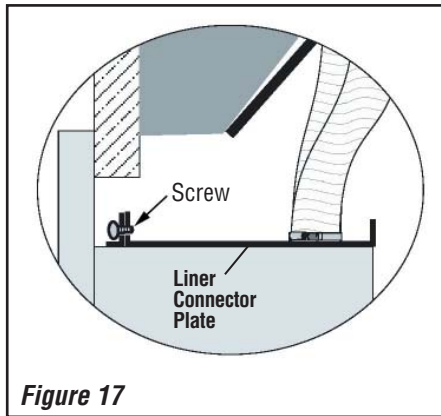

Figure 17
- 6) Remove the liner connector plate from the insert top (by removing the screw shown in Figure 17, then sliding plate backward until it clears the retaining brackets). Liners should be stretched just enough to prevent the possibility of sagging or coiling in the flue. Cut off excess liner (see collar locations on pages 5 & 6).